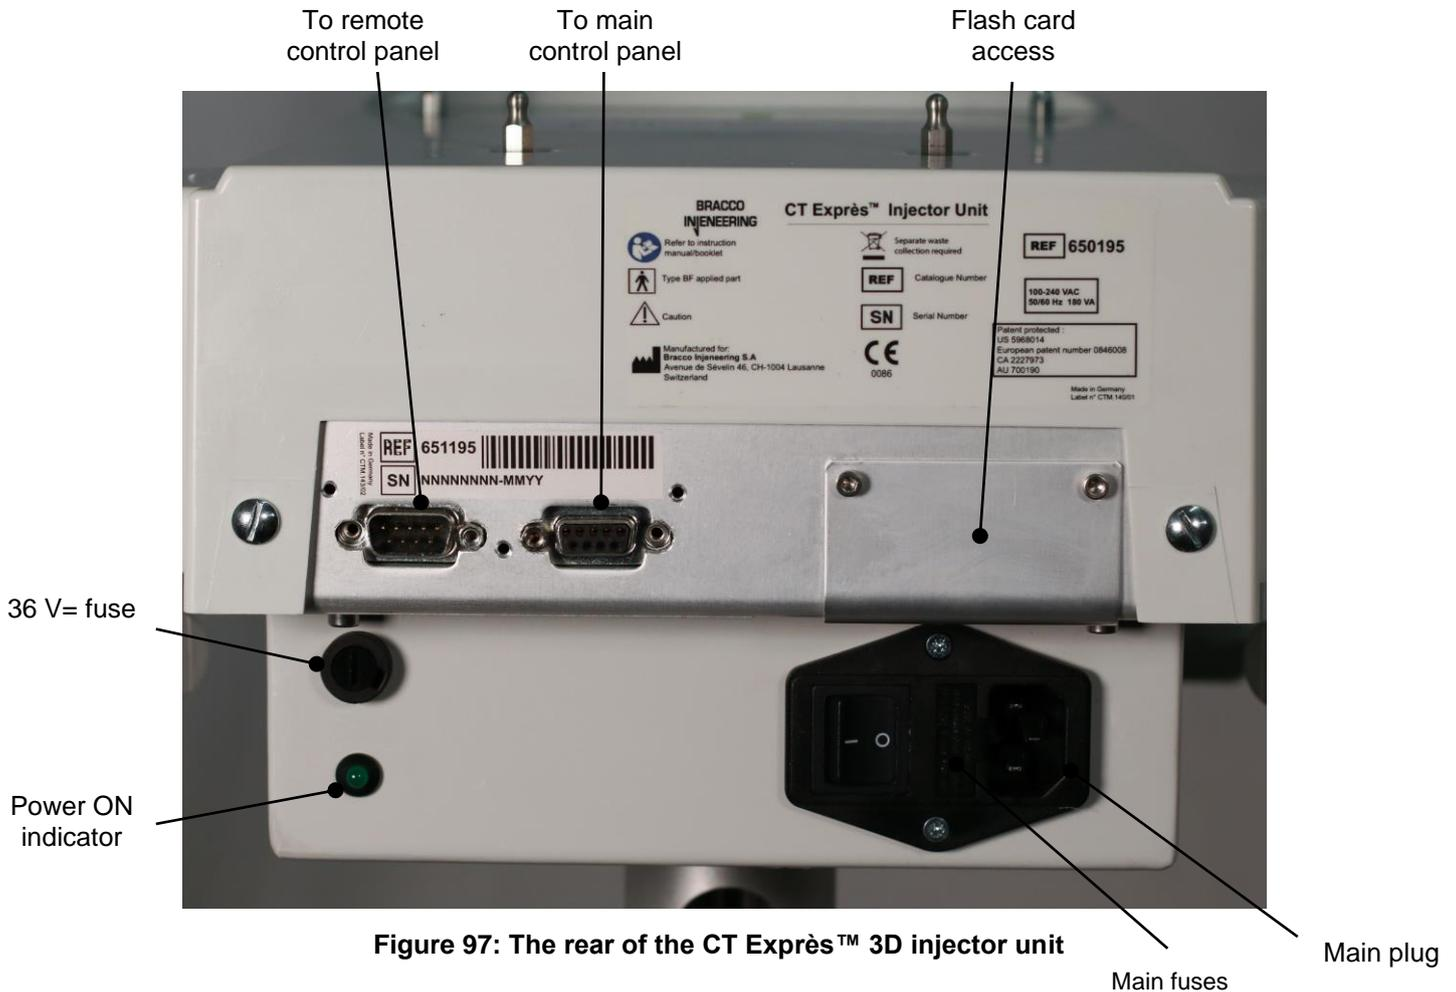

Figure 97: The rear of the CT Expres™ 3D injector unit
1. Switch off the CT Expres™ 3D using the mains power switch at the rear and disconnect the mains power cable (*Figure 97*).
1. Switch off the CT Expres™ 3D using the mains power switch at the rear, and disconnect the mains power cable (*Figure 97*).